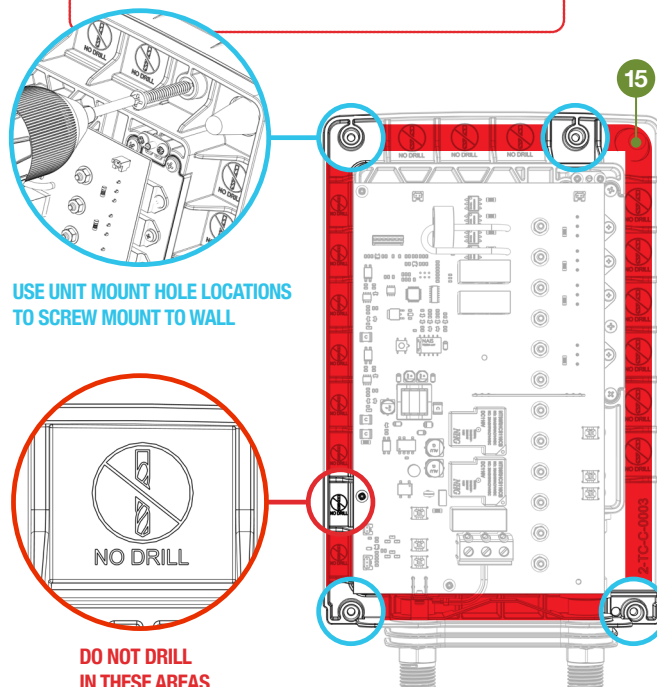

Fig. 2
5. Mount the unit onto the wall using four 12 Mounting Screws. Reference the **SCREW HOLE MOUNTING TEMPLATE** (provided separately from this manual, see Fig. 1), making sure to only mount the unit through the screw hole mounts on the unit (see Fig. 2) to avoid damaging the unit, **VOIDING THE WARRANTY**.